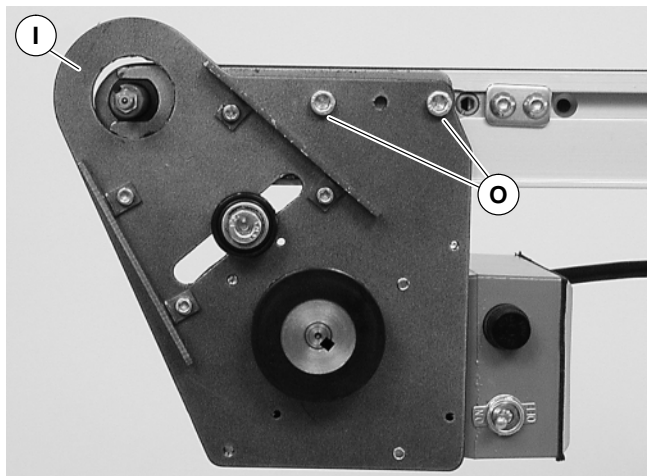

Figure 4
3. Attach mount assembly (I of Figure 4) with screws (O). Tighten screws to 80 in-lb (9 Nm).